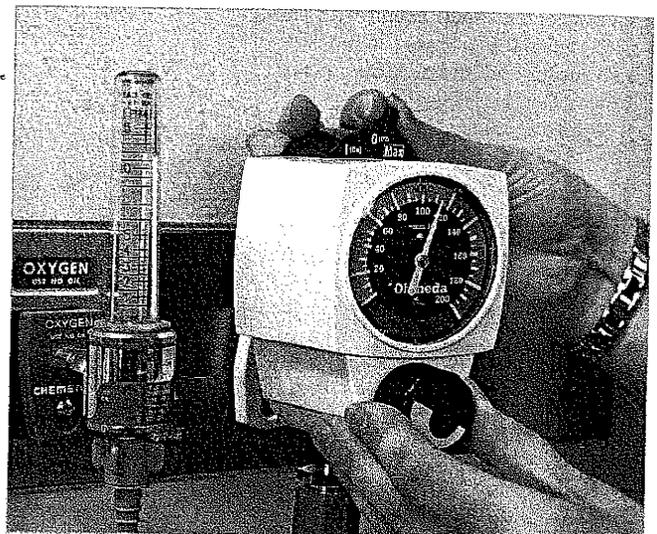

FIGURE 2. Turning suction device to the appropriate pressure.
9. **Turn suction to appropriate pressure (Figure 2).**